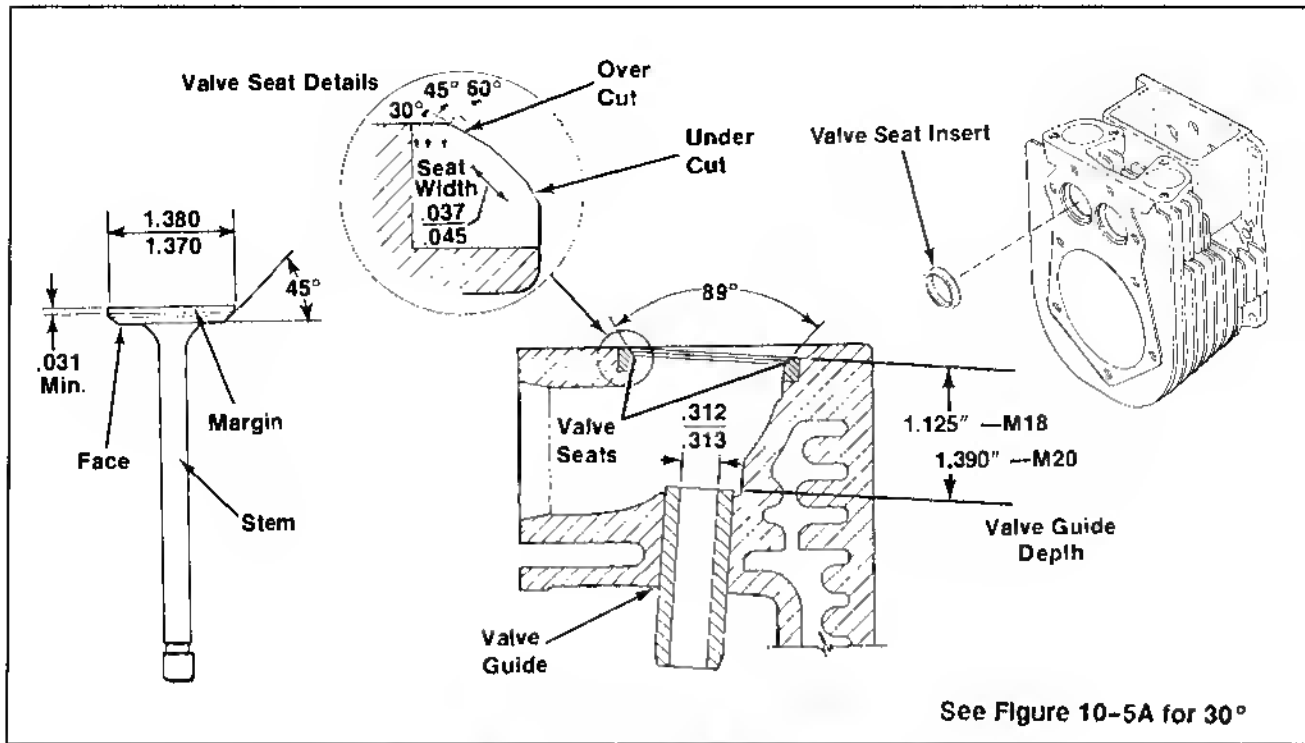
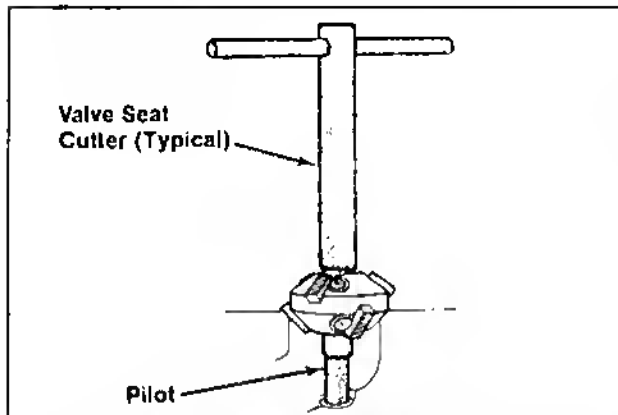

Figure 10-5. Valve Details (45° Angle).
Figure 10-10. Standard Valve Seat Cutter.
Carefully inspect valve mechanism parts. Inspect valve springs and related hardware for excessive wear or distortion. Valve spring free height should be approximately 1.68" (1-11/16"). Check valves and valve seat area or inserts for evidence of deep pitting, cracks, or distortion. Check clearance of valve stems in guides. See Figure 10-5 for valve details and specifications for 45° angle or 10-5A for the new 30° exhaust valve. See page 10.4.
3. Use a standard valve seat cutter (see Figure 10-10) and cut seat to dimensions shown in Figure 10-5.